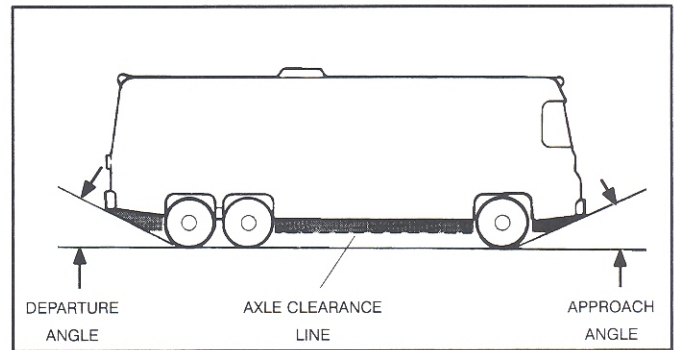

FIGURE 7. VEHICLE CLEARANCES
3. **Below-Floor Mounting** — Below-floor mounting kits are available from Onan. Carefully follow the instructions in the kit. Reinforce a plywood or particle board floor with steel to resist the dynamic weight of the genset (Item 2). Do not mount the genset within the approach or departure angles of the vehicle or below the axle line (Figure 7, Page 10). Install a vapor-tight, fire-resistant barrier above the genset equivalent to 26 gauge galvanized steel and seal around all openings, such as bolt holes, through the barrier.
6. To keep the tail pipe from being damaged, do not route it such that it protrudes into the approach or departure angles of the vehicle or below the axle clearance line (Figure 7).